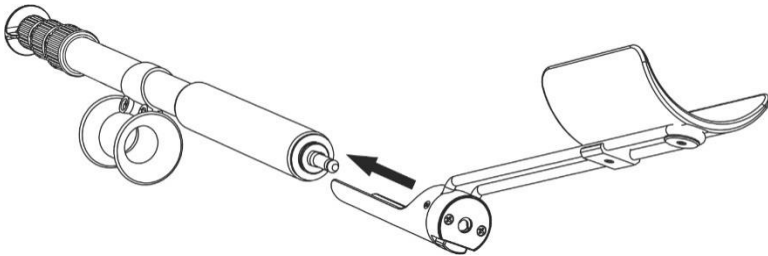

Figure 2.5 – Attaching the armrest to the telescopic tube
2.2.5.2 Attach (or detach) the armrest to (from) the telescopic tube (Figures 2.5, 2.6).